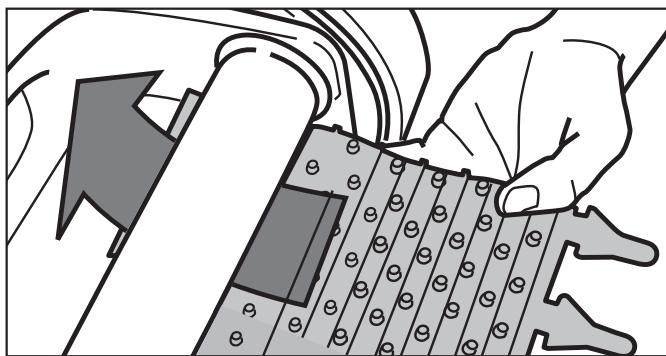

**Figure 24. Wear Indicators**
The cleaner is fitted with PVC brushes in front and rear. There are raised grooves that are "wear" indicators on the brushes located next to the tab connectors (see Figure 24). As brushes wear out, the raised groove will flatten and smoothen into the track. To maintain optimal cleaner performance, you should replace the brushes as soon as one of the wear indicators is smooth or worn down (even if the blade wear is not even). It is recommended that you replace the brushes every two (2) years.